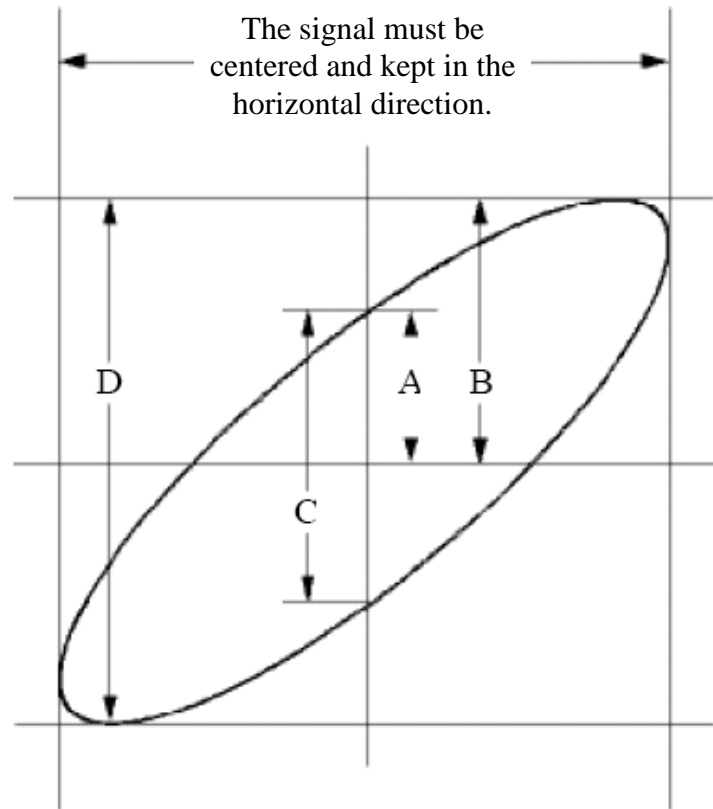

Figure 7-6 Lissajous Graph
- (8) Turn the **Vertical Scale** and **Vertical Position** knobs, optimizing the waveform.
- (9) With the elliptical oscillogram method adopted, observe and calculate the phase difference (see *Figure 7-6*).